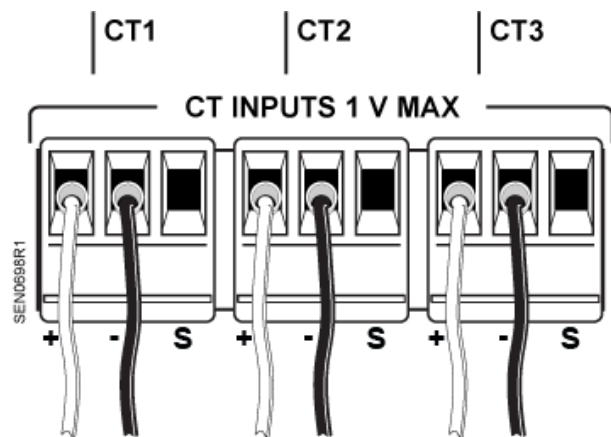

Figure 3. Connect White Wire to Positive (+) Terminal. Connect Black Wire to Negative (-) Terminal.
5. Connect the white wire on the CT to the positive terminal (+) on the measuring device. See Figure 3.
6. Connect the black wire on the CT to the negative (-) terminal on the measuring device. No connection will be made to the shield (S) terminal. See Figure 3.